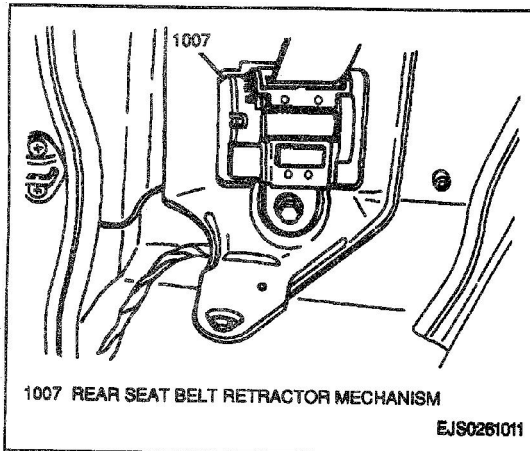

Figure 12—Rear Seat Belt Retractor—Two - Door Model
4. One bolt, one screw and rear seat belt retractor mechanism from vehicle (Figure 12).